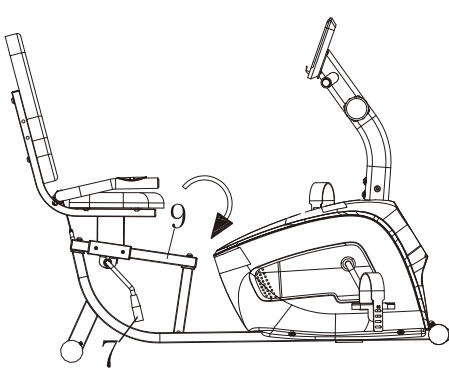

Fig 1
Push the Brake handle(#7) down to loosen (see Fig 1). Then you can move the Cushion frame(4) to find a suitable position on Adjustable Tube(#9). Pull the Brake handle(#7) up to tighten (see Fig 2).